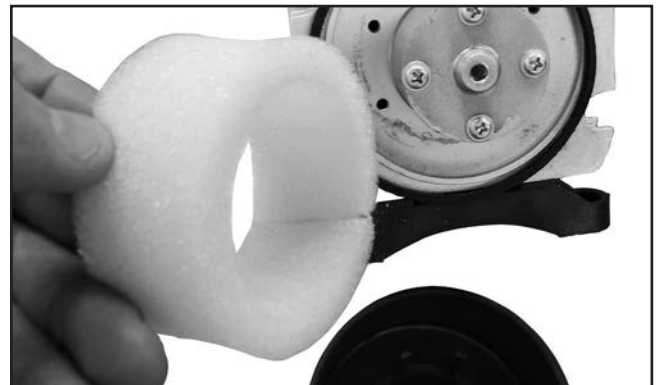

Figure 79. Typical air pump foam filter.
3. Remove foam filter (see **Figure 79**), and soak in a solution of warm water and dish soap.